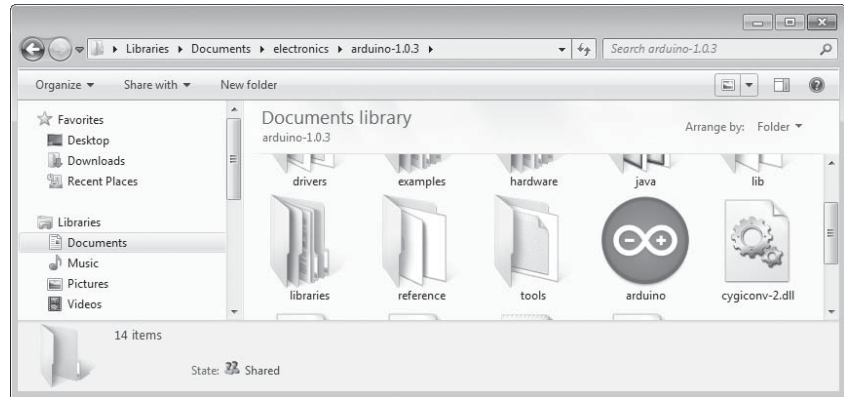

Figure 1-19: Your IDE folder with the Arduino application icon selected
4. Copy the folder named *arduino-0022* (or something similar) to the location where you store your applications. Once the copying is finished, locate the folder and open it to reveal the Arduino application icon, as shown in Figure 1-19. You may wish to copy the icon and place a short-cut on the desktop for easier access in the future.